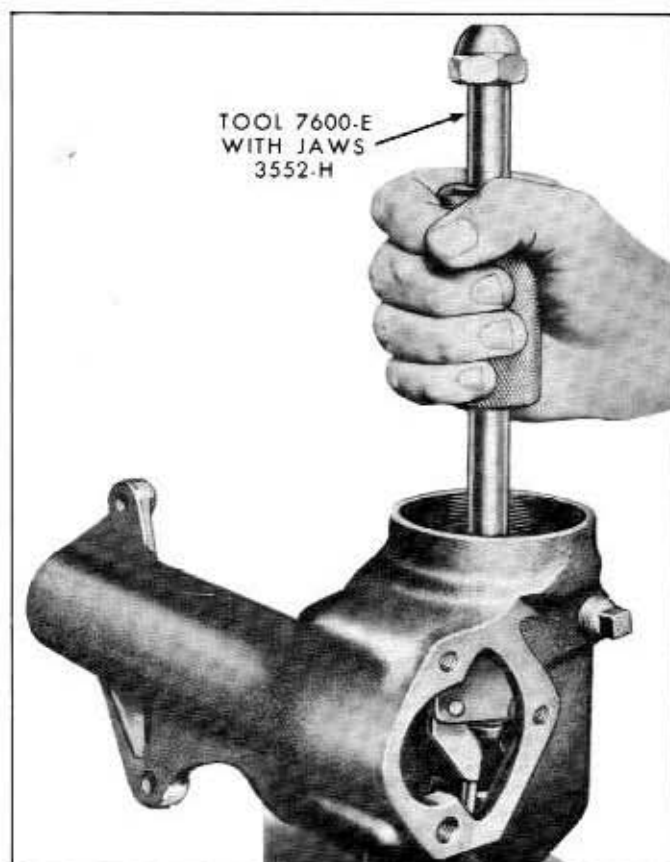

Fig. 5-9—Steering Shaft Lower Bearing Cup Removal—(60C-1206)
7. Remove the bearing cup, seals, or bushings only if preliminary inspection shows damage. Install the steering gear housing in a vise and remove the lower bearing cup with Tools 7600-E and 3552-H. See figure 5-9. Discard the upper bearing cup and the adjuster as a unit if the upper bearing is defective. Replace the bearing and adjuster with new parts.